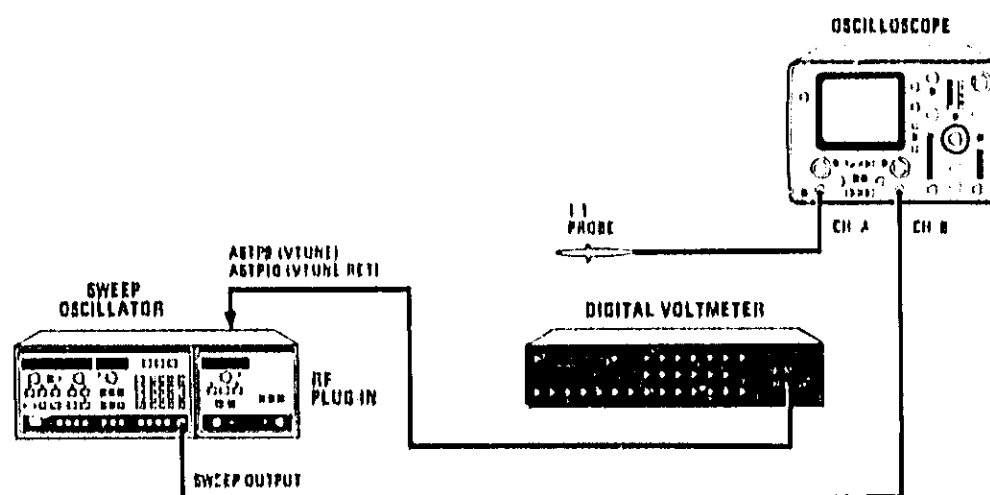

Figure 5-3. Sweep Control Adjustments Test Setup
2. Set up the equipment as shown in Figure 5-3 with the DVM connected to A6TP9 (VTUNE) and with the reference probe connected to A6TP10 (VTUNE RET). Do not connect the Oscilloscope probe yet. Allow the instrument to warm up for 1 hour.